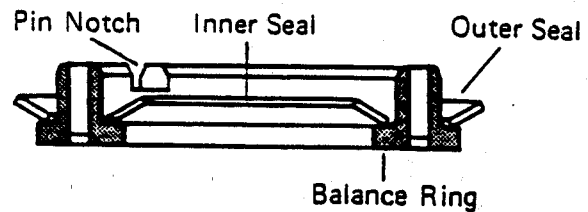

Figure 20.
37 Apply petroleum jelly to inner and outer face seals. Install seals on balance ring as shown in Fig. 20.
**Important:** Install face seals in the positions shown in Fig. 20. or the motor will not operate properly. Do not force or bend the face seals. Any damage to these seals will affect the operation of the motor.